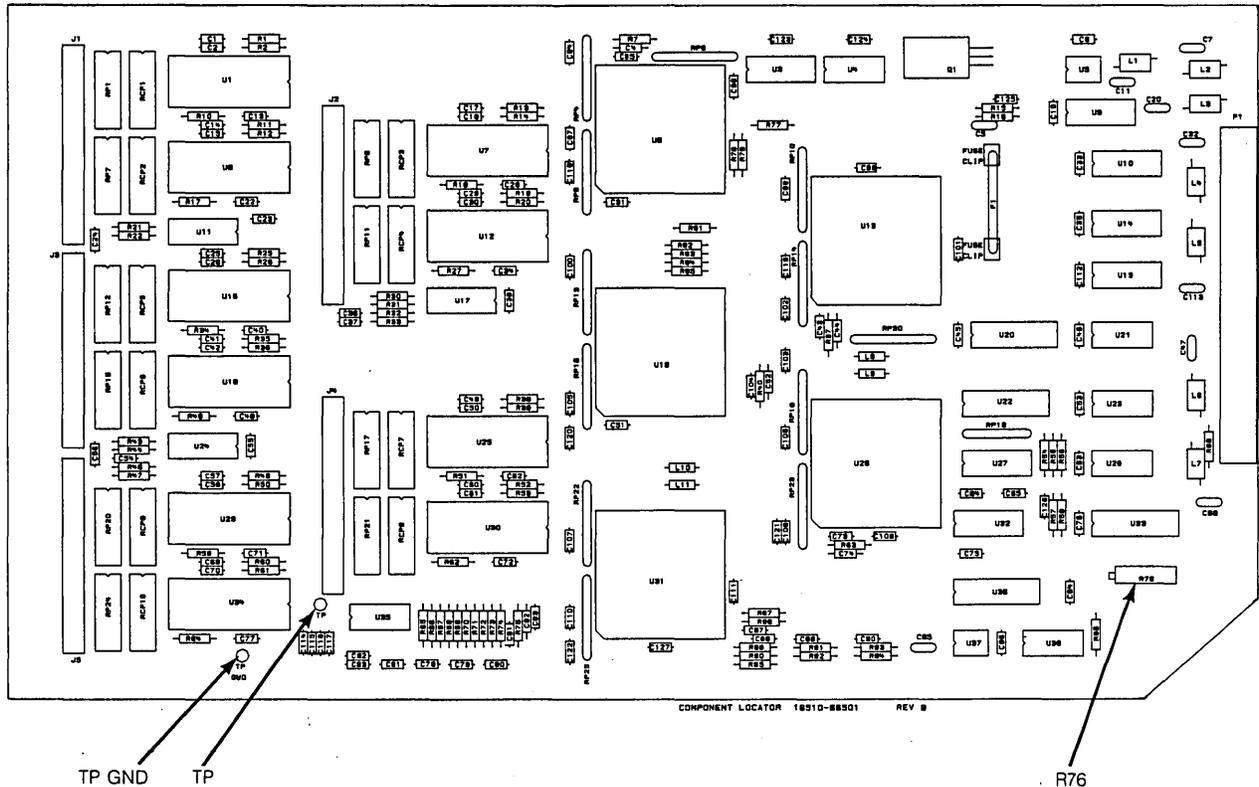

Figure 4-3. Adjustment Pot Location
- a. Connect the positive lead from the multimeter to the TP and the negative lead to the TP GND. For the location of the test points and the adjustable resistor, refer to figure 4-3.